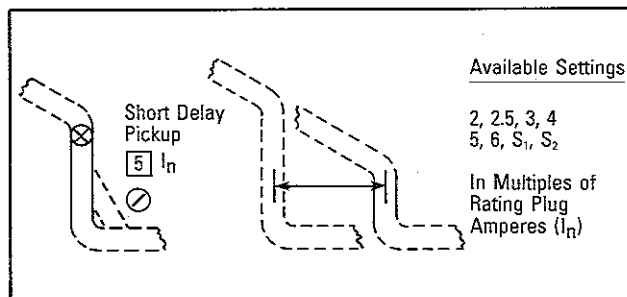

Fig. 4.3 Short Delay Current Pickup Settings
As illustrated in Fig. 4.3, eight (8) available settings range from 2 to 6 (I_n) with two variable settings of S1 and S2. These variable settings depend upon the type of circuit breaker in which the trip unit is installed. Specific information on these settings is given in the supplemental instruction leaflet referenced in Sections 9.1 and 9.2 that is supplied with the circuit breaker. Specific information is also shown on the rating plug and on the applicable time-current curve.